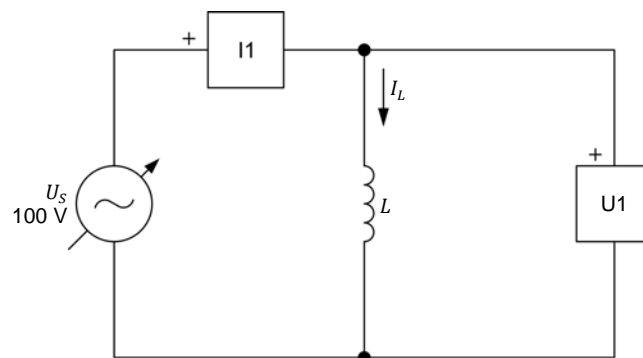

Figure 2-4. AC circuit containing an inductor.
4. Set up the circuit shown in Figure 2-4.
The value of the inductance L to be used in the circuit of Figure 2-4 is indicated in Table 2-1.